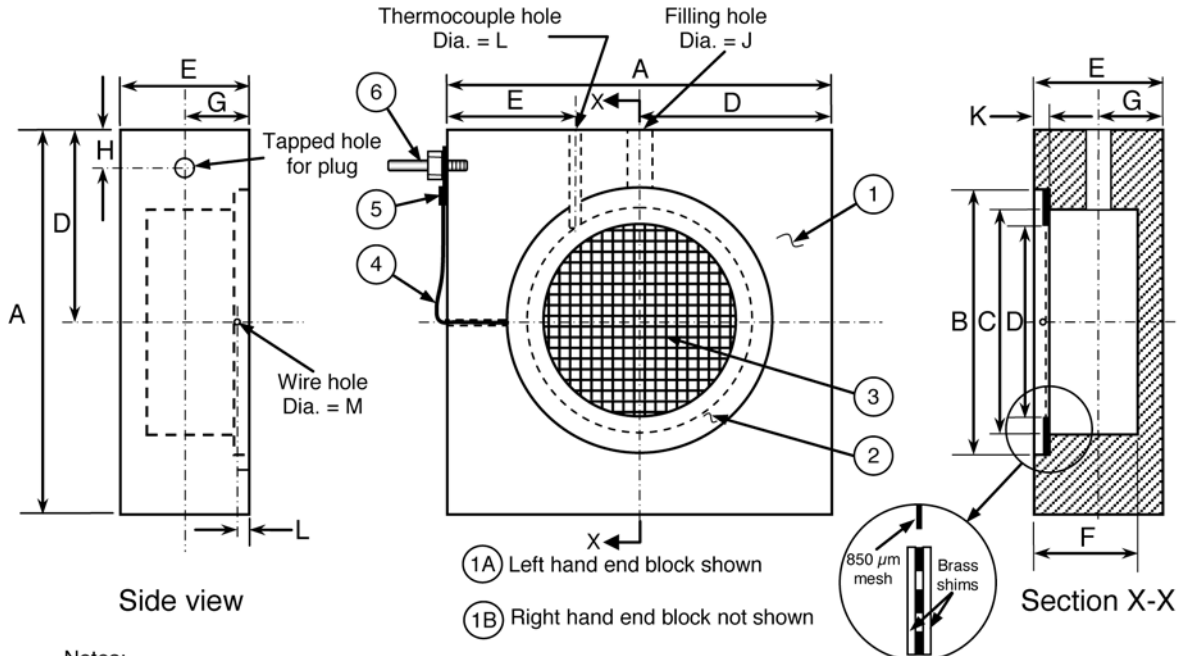

FIG. 1 Applied Voltage Cell (construction drawing)
4.7 The details of the test method apply to 100-mm nominal diameter specimens. This includes specimens with actual diameters ranging from 95 to 100 mm. Other specimen diameters may be tested with appropriate changes in the applied voltage cell design (see 7.5 and Fig. 1).